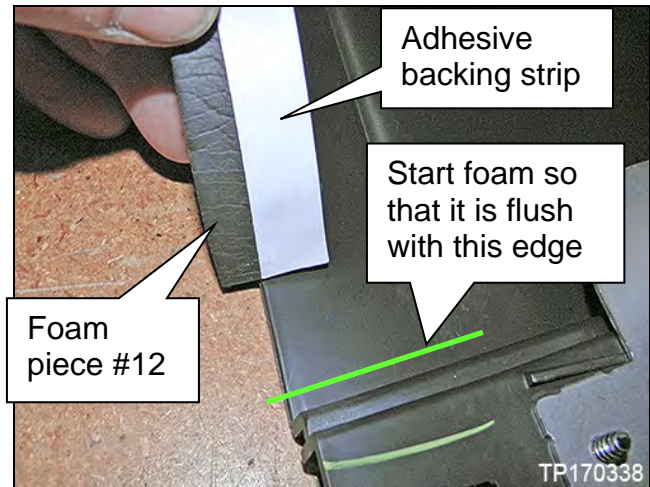

Figure 9D
- a. Remove the adhesive backing strip shown in Figure 9D.
- Foam piece starts flush with edge of center console assembly shown in Figure 9D.
NOTE: Foam piece #12 should extend below the center console assembly by the width of the adhesive strip shown in Figure 9D.